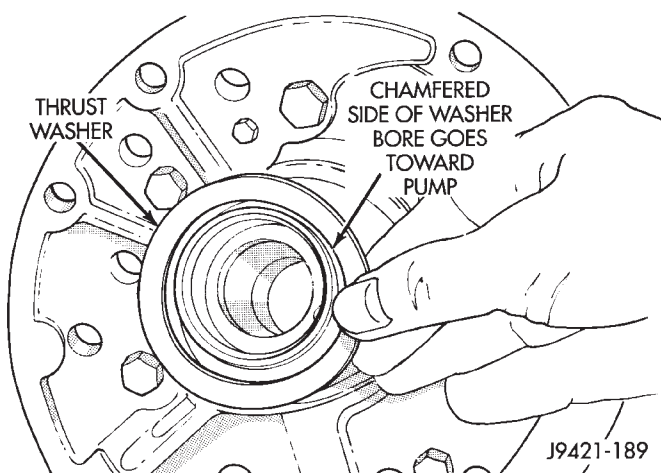

Fig. 151 Front Clutch Thrust Washer Installation
(7) Coat front clutch thrust washer with petroleum jelly to hold it in place. Then install washer over reaction shaft hub and seat it on pump (Fig. 151).